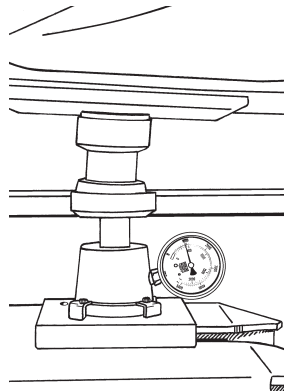

FIGURE 4
- The saddle is designed to pivot as the kingpin enters it. When you place the fifth-wheel scale on the saddle, the weight of the scale will generally be sufficient enough to make the saddle pivot into its horizontal position (See Figure 4).